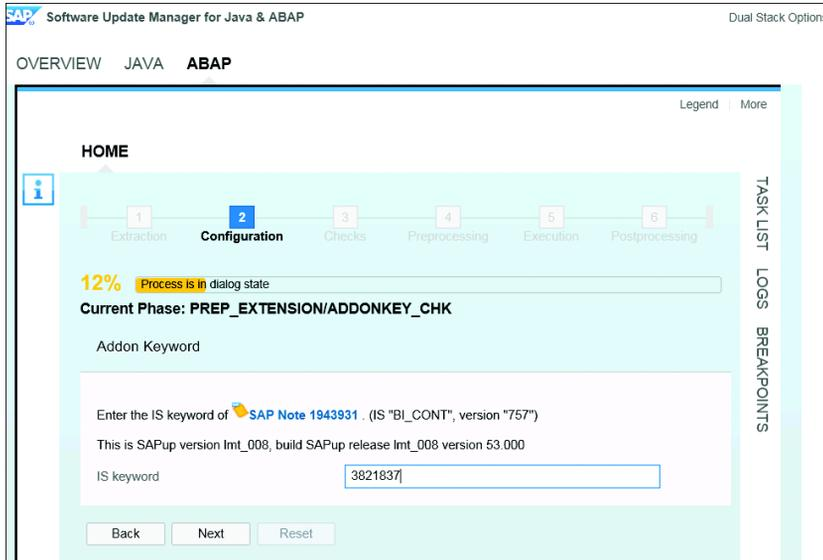

Figure 50 Enter Password from Note
7. Open SAP Note 1943931 - Installation/Upgrade for the ABAP Add-On BI_CONT / BI_CONT_XT 757. Review the SAP Note and enter the password "3821837" into SUM. SAP requires a password to confirm you have read the SAP Note (see Figure 50).